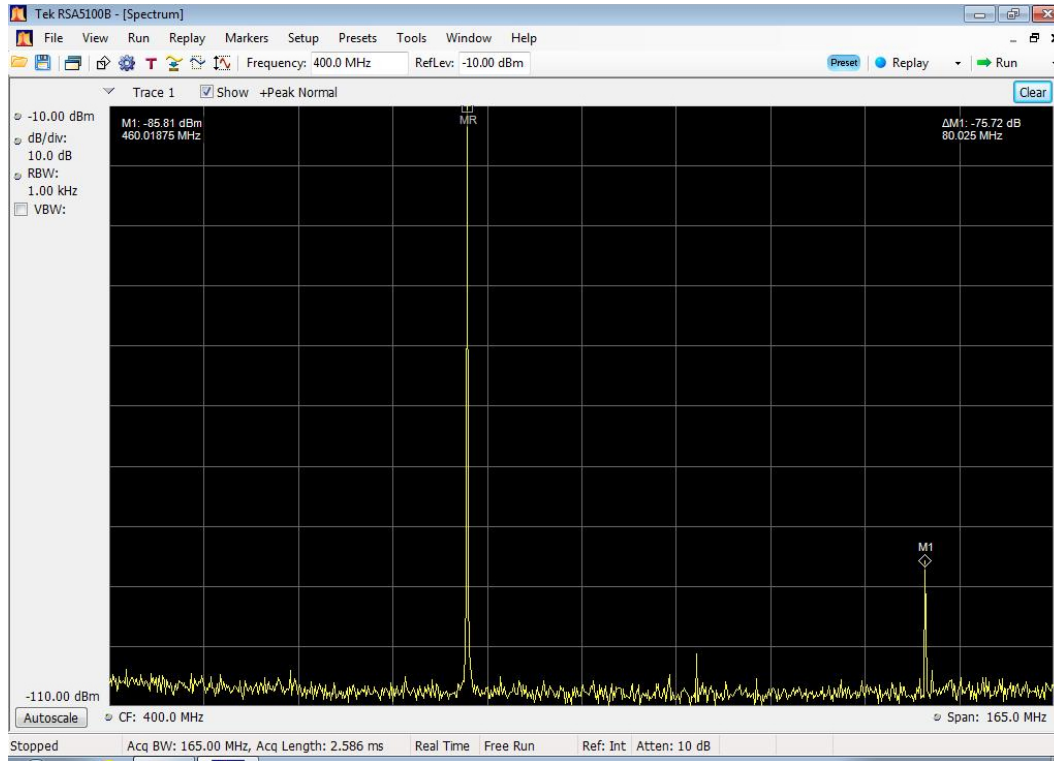
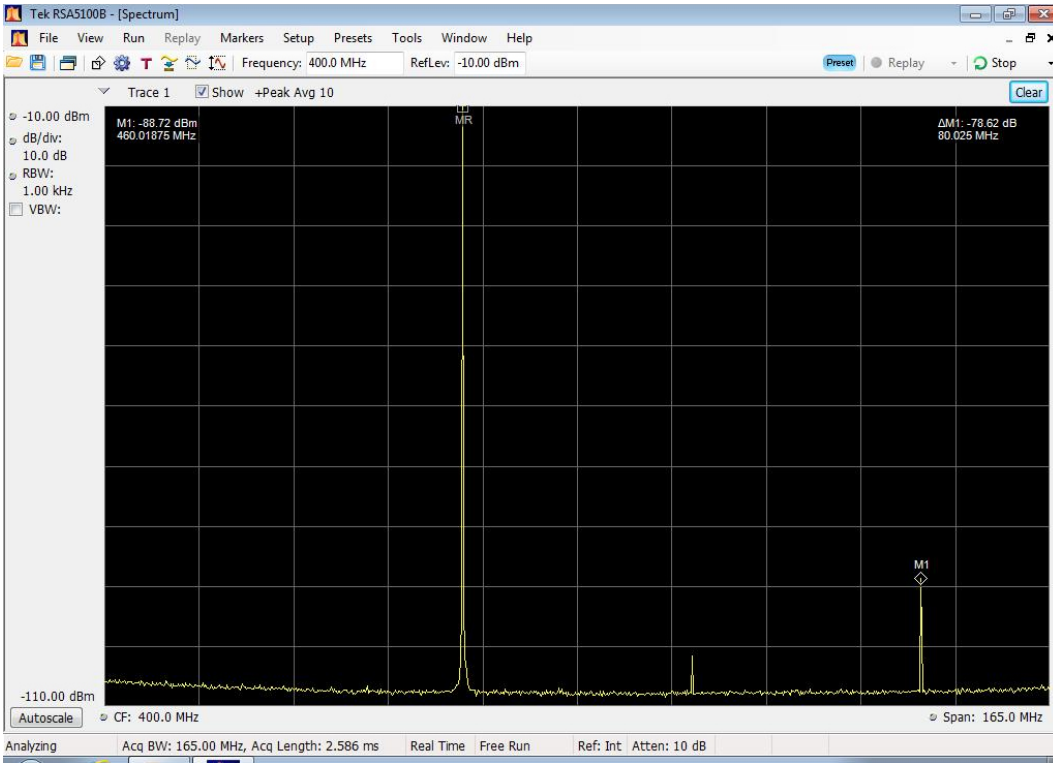

Figure 2. Performance of Option B16x showing IF/ADC-generated harmonic distortion at -75.72 dBc. The signal at M1 is the combination of HD2 and HD3 combine.
Figure 3. Performance of Option B16x showing IF/ADC-generated harmonic distortion at -78.62 dBc, after 10 averages to reduce noise variations on the signal.
Figure 2 shows a signal at the reference level of -10dBm and the spectrum that you would typically see for a center frequency (CF) of 400MHz with a 380MHz tone applied to the input. The span is 165MHz. There are usually two or three signals created by the instrument that limit SFDR. The main component shown above by marker M1 at
Figure 3 is the same conditions as in Figure 2, except with 10 rms averages of the traces. The result is a less noisy measurement of about -79 dBc at M1.